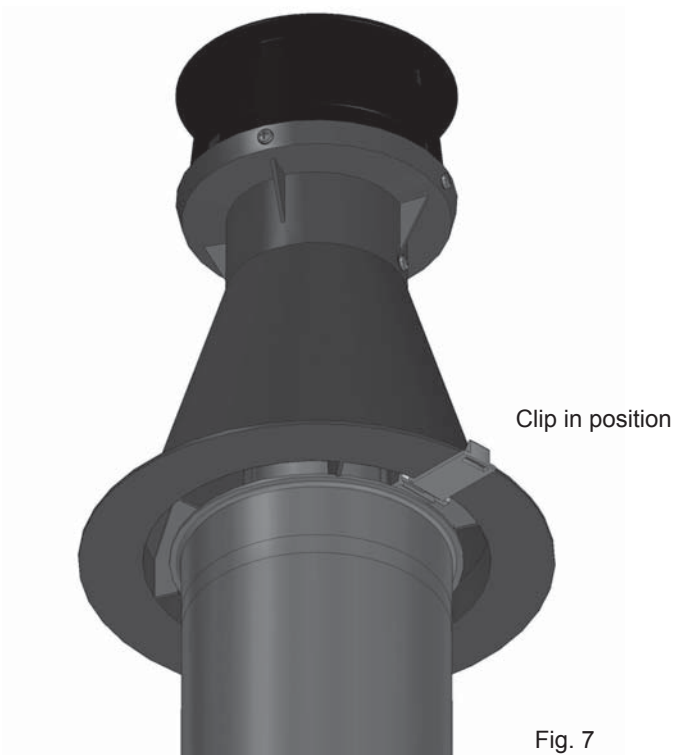

Fig. 7
11. The IFOS must be fixed in the air inlet of the boiler vertical flue terminal at the time of installation. It **MUST** be positioned as shown (Fig. 7).
13. Insert the loose end of the IFOS cable into air inlet of the cut or adjusted flue terminal. Fix the clip to the flange as shown (Fig. 7). Ensure that it is firmly in position.